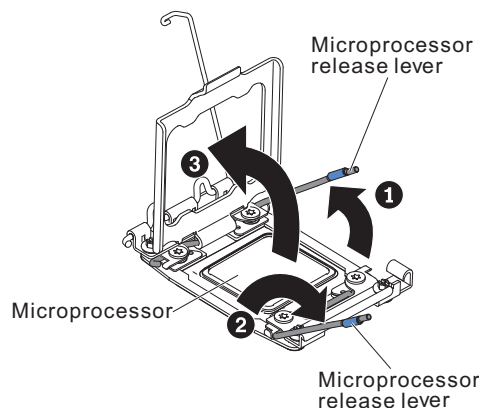

Figure 189. Opening the release levers
- Open the microprocessor socket release levers and retainer, as shown in Figure 189.